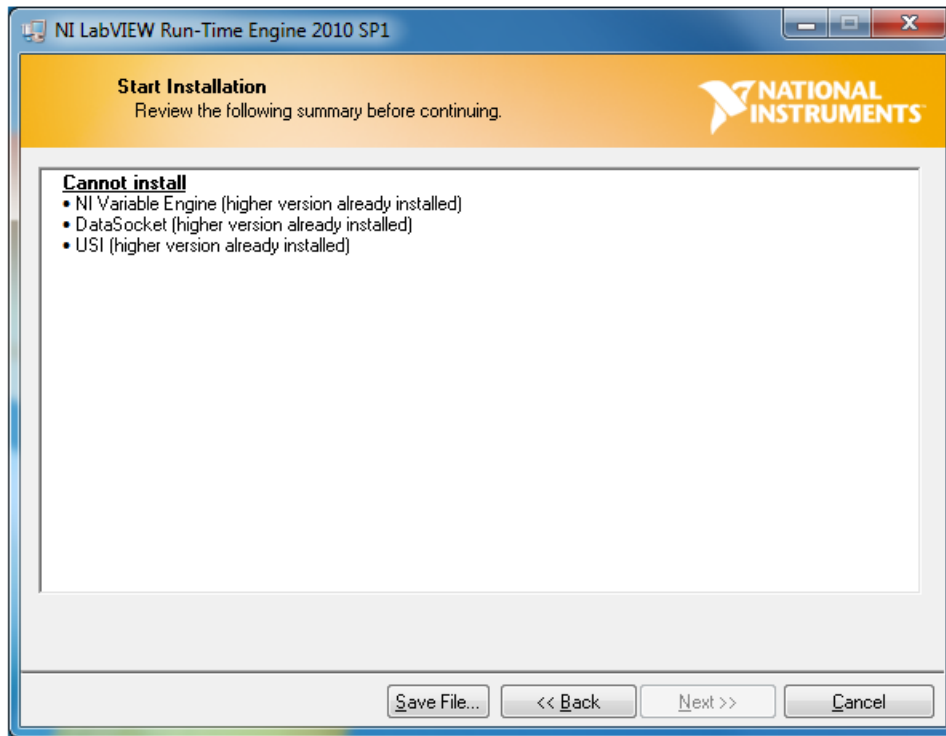

Figure 45. HMC-DAQ GUI Install (LabView Run-time Engine Installation)
12. The run-time engine installs unless it has already been detected as should be the case if the HSDCPro GUI was already installed. In this case, the following message appears. Press the *Cancel* button, as in Figure 45.